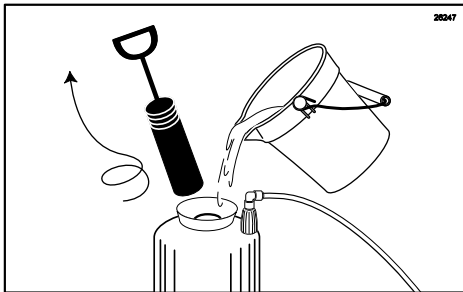

Figure 126
4. Remove the hand pump from the Sanitizer Tank and fill the Tank with approved sanitizer solution. (See Figure 126.)